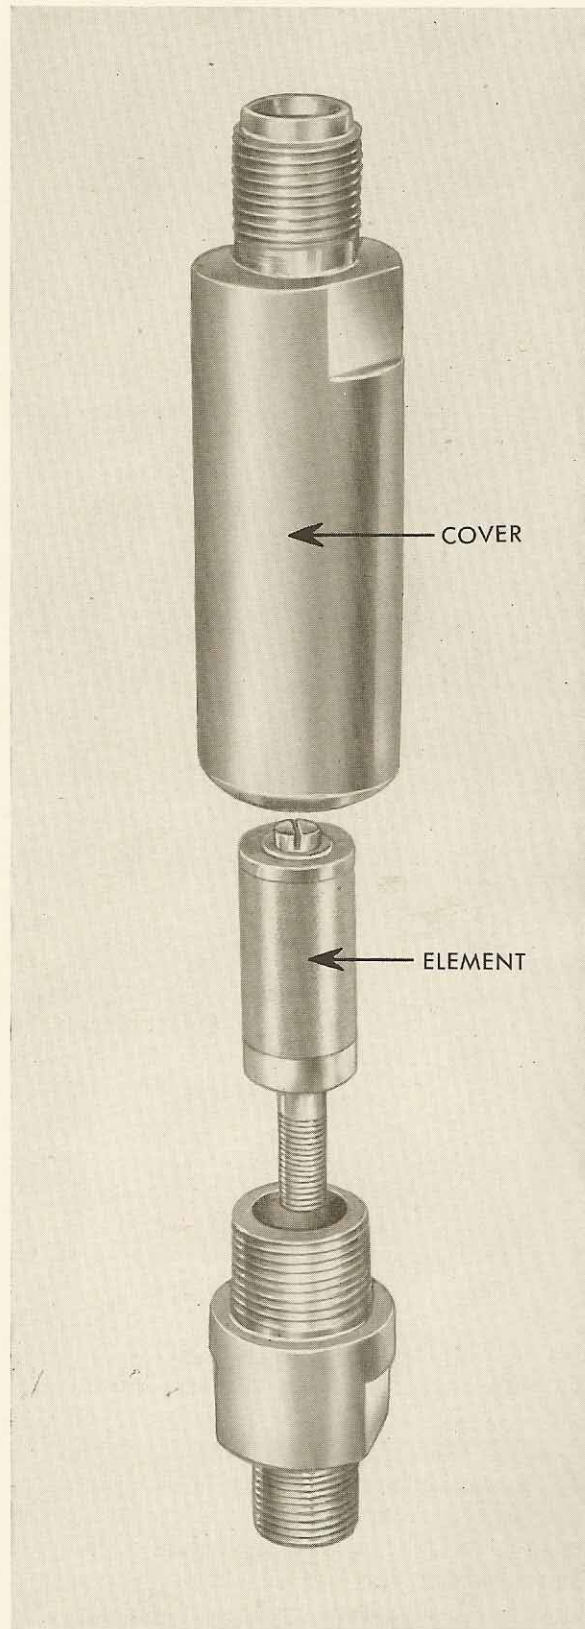

FIGURE 17-6
5. SPRAY VALVE FILTER: Remove the filter cover, see Figure 17-6, and screw out the element. HANDLE THIS ELEMENT CAREFULLY TO AVOID DAMAGE as the openings between the discs are only 0.001 inch and any enlargement of these openings will allow dirt to pass into the spray valve. Wash all parts thoroughly in fuel oil and assemble filter to the spray valve body.